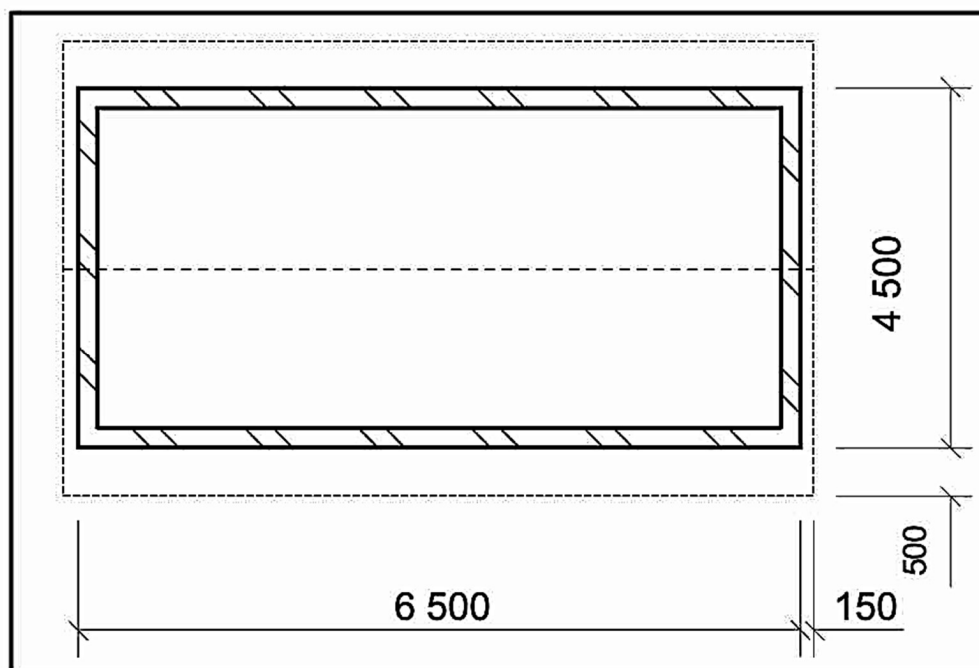

FIGURE 3.3
3.3 FIGURE 3.3 below shows the floor plan of a building with a gable roof.